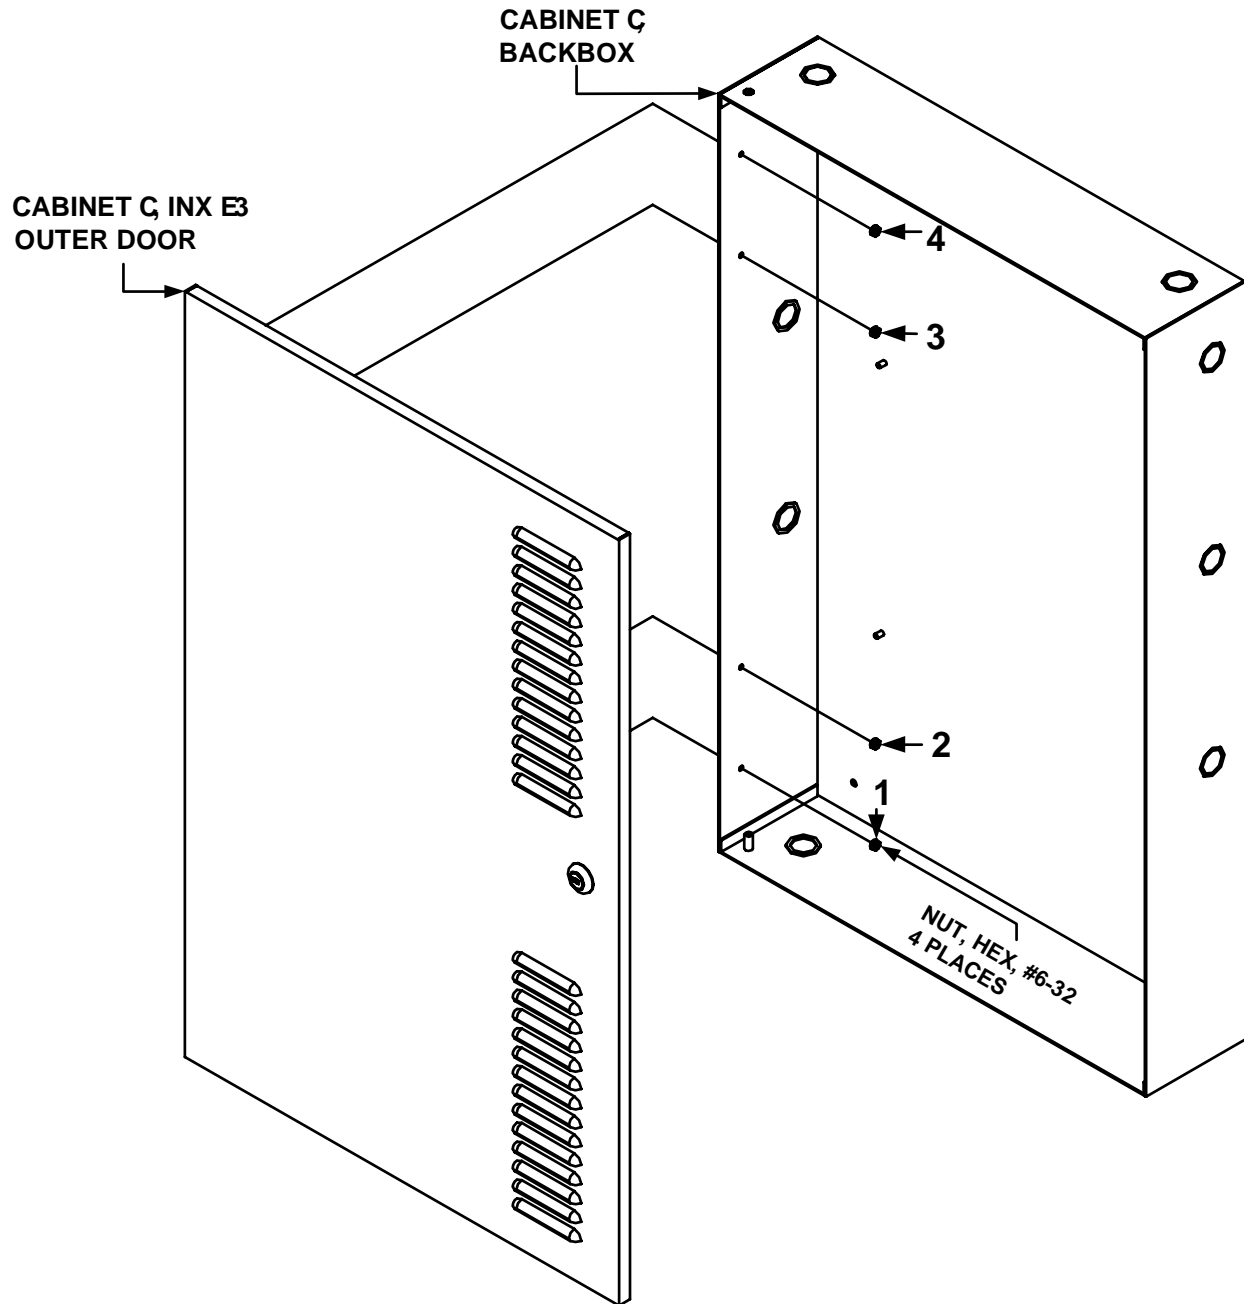

Figure 2.5.6.2 Cabinet C, INX-E3 Outer Door Installation
- 1) Mount the ILI-MB-E3 over the standoffs on the INX-E3 plate and secure with eight (8), standoffs, (3/16" hex, #4-40 x 1") in the eight-hole mounting pattern as shown in Location 1 of Figure 2.5.6.3-B.